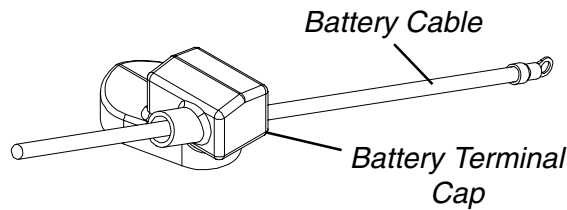

FIGURE 8 - INSTALLING TERMINAL CAPS
**SECTION E - INSTALLING TERMINAL CAPS (FIGURE 8)**